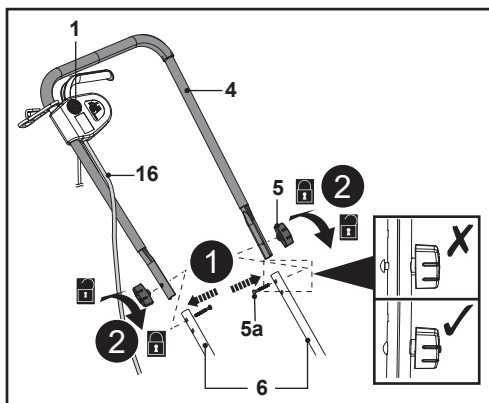

Fig. 4
4. Pass the mounting bolt (5a) through the mounting holes to the end (Fig. 4, step 1).
5. Secure the upper handle bar (4) with the lower handle bars (6) by turning the lock knob (5) clockwise on the thread of the mounting bolt (5a) for tightening (Fig. 4, step 2).
6. Make sure the control cord (16) run on the upper side of the upper handle bar (4) and the lower handle bar (6).